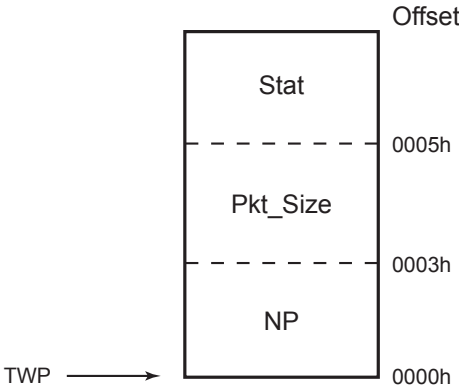

Figure 62. Descriptor Table Entries
The TxDMA module moves the next packet to be transmitted from EMAC memory into the TxFIFO. Whenever the polling timer expires, the TxDMA reads the High status byte from the Tx descriptor table pointed to by the Transmit Read Pointer, TRP. Polling continues until the High status Read reaches bit 7, when the Emac_Owns ownership semaphore, bit 15 of the descriptor table (see Table 178 on page 299) is set to 1. The TxDMA then initializes the packet length counter with the size of the packet from descriptor table bytes 3 and 4. The TxDMA moves the data into the TxFIFO until the packet length counter down-counts to zero. The TxDMA then waits for Transmission Complete signal to be asserted to indicate that the packet is sent and that the Transmit status from the EMAC is valid. The TxDMA updates the descriptor table status and resets the ownership semaphore, bit 15. Finally, the Tx_DONE_STAT bit of the EMAC Interrupt Status Register is set to 1, the address field, DMA_Address, is updated from the descriptor table next pointer, NP (see Figure 62 on page 298). The High byte of the status is read to determine if the next packet is ready to be transmitted.
The descriptor table contains three entries: the next pointer (NP), the packet size (Pkt_Size) and the packet status (Stat), as illustrated in Figure 62.